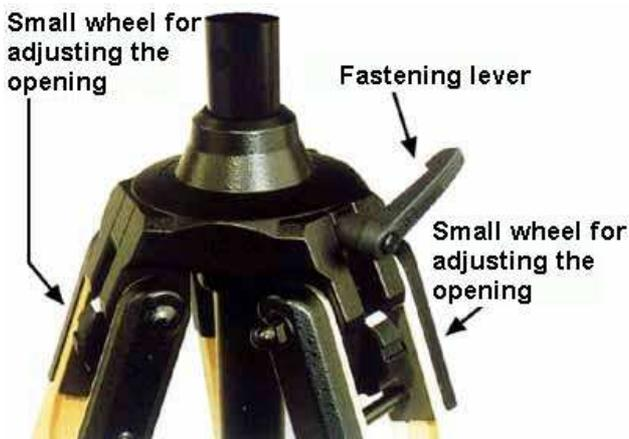

Fig. 9-14 TR-02A Tripod
- fixed opening of 20°: White adjustment indicator is visible (as shown in Fig. 9-14);